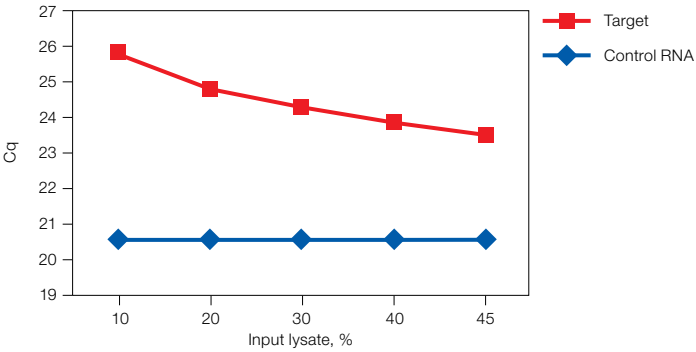

Fig. 2. Determining optimal input cell lysate amounts. The maximum allowable cell lysate input is 45%.
- RNA control: Plot the C_q values for the RNA control against the percentage input lysate (Figure 2). A constant C_q value across the input lysate range indicates no RT-qPCR inhibition. A deviation of >1 C_q value indicates RT-qPCR inhibition. Input lysate amounts that show such a C_q deviation should be avoided. In the example shown in Figure 2, optimal performance can be achieved with input lysate amounts up to 45%.
- Target gene: If a target gene is amplified in parallel with the RNA control, plot the C_q values for the target gene against the percentage input lysate (Figure 2). A decrease in C_q value is expected as input lysate increases. A deviation in the linear response of the RNA control results from incomplete lysis, and/or from RT-qPCR inhibition.